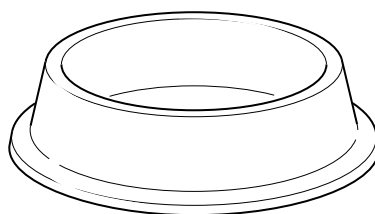

Fig. 4
- 8 Fig. 4 shows a dog feeding bowl made from plastic.